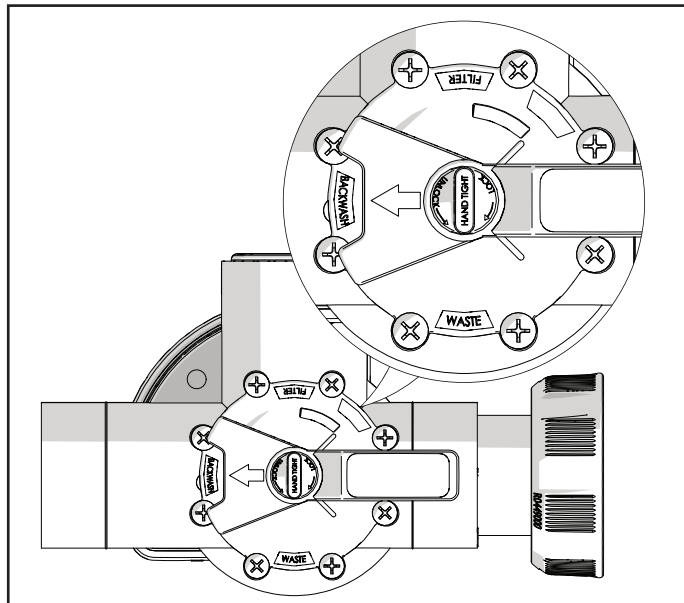

Figure 4. Valve Handle Positions
1. Make sure the valve handle is pointing towards FILTER. See Figure 4.
4. Rotate the valve handle to the BACKWASH position. See Figure 4.